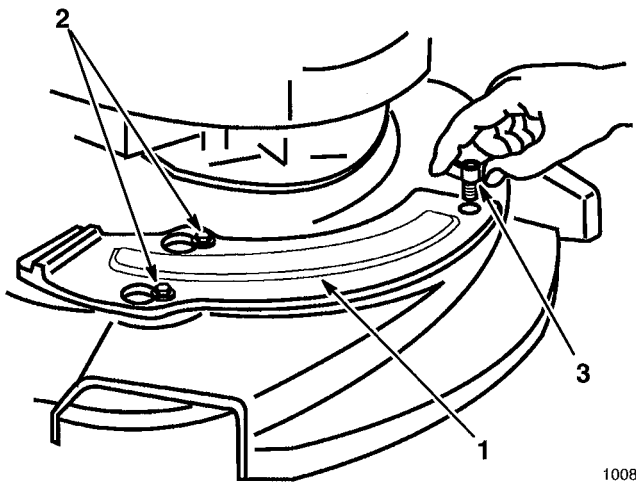

Figure 41
3. Two shoulder bolts on the housing protrude through slotted holes in the mulch plate and do not have to be loosened or removed (Fig. 41). Mulch plate moves over the shoulder bolt heads.
5. Secure with wing screw (Fig. 41).